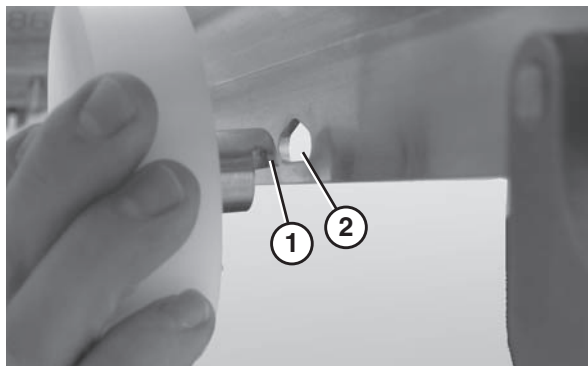

Figure 29
1. Insert the notched end of the return shaft (**Figure 29, item 1**) through the small hole (**Figure 29, item 2**) in the inside of the conveyor frame.